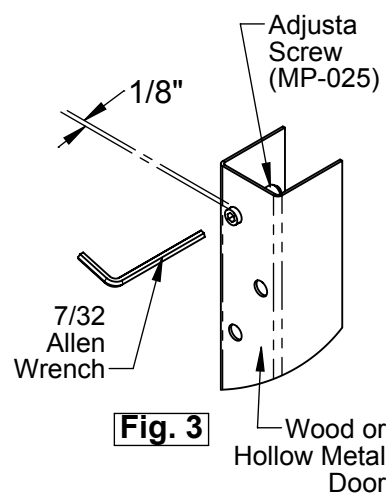

Fig. 3
- Insert Adjusta-Screws (MP-025) into every hole. Place a 7/32" Allen wrench in the opening of the Adjusta-Screw and turn the Adjusta-Screw into the hole while keeping the screw properly aligned as shown (**Fig. 3**) Drive all the Adjusta-Screws in until it is approximately 1/8" from edge of door.